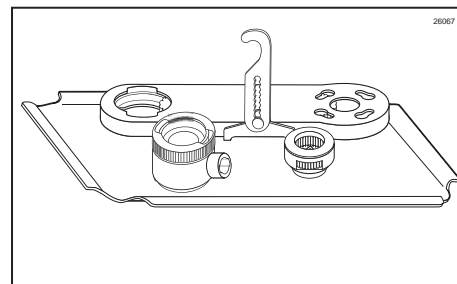

Figure 35
7. Remove each part from the sanitizer solution. Place the items on a sanitary tray to air dry. (See Figure 35.)